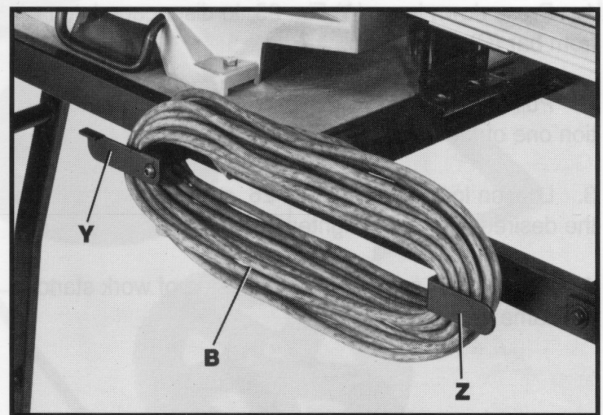

Fig. 21
19. Fig. 21, illustrates an extension cord (B) wrapped on the brackets (Y) and (Z).